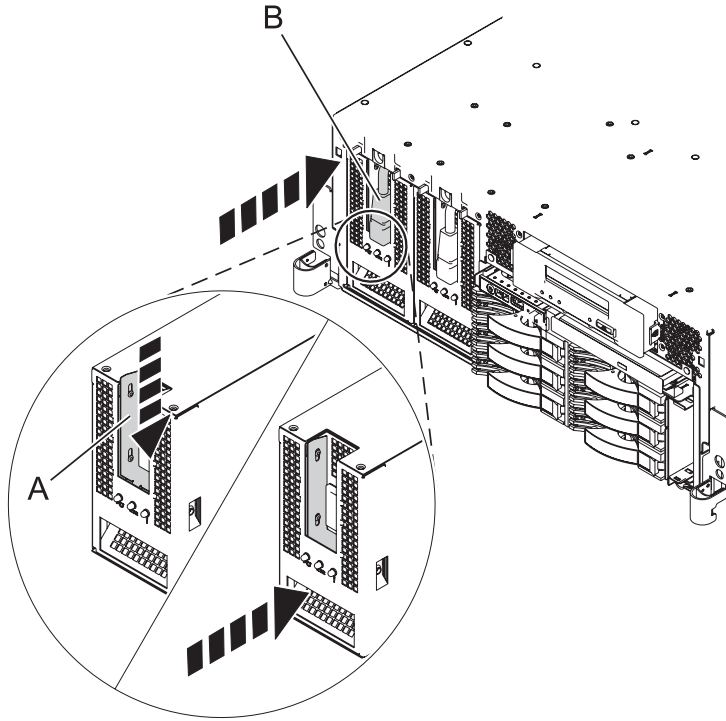

Figure 19. Installing both power supply units
- a. While pushing the lever (A) down, carefully slide the power supply into its location in the system. See Figure 19 on page 24.
- b. Connect the power cable (B) to the power supply.